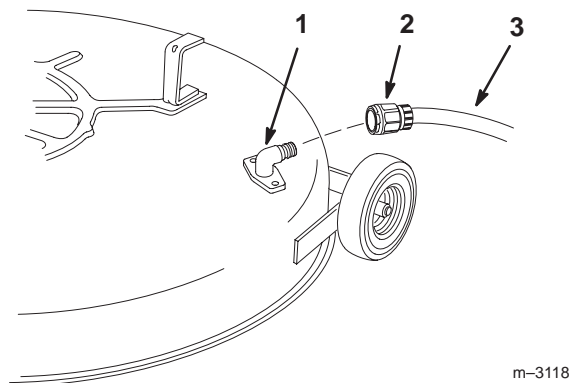

Figure 53
- Attach the hose coupling to the end of the mower washout fitting, and turn the water on high (Fig. 53).